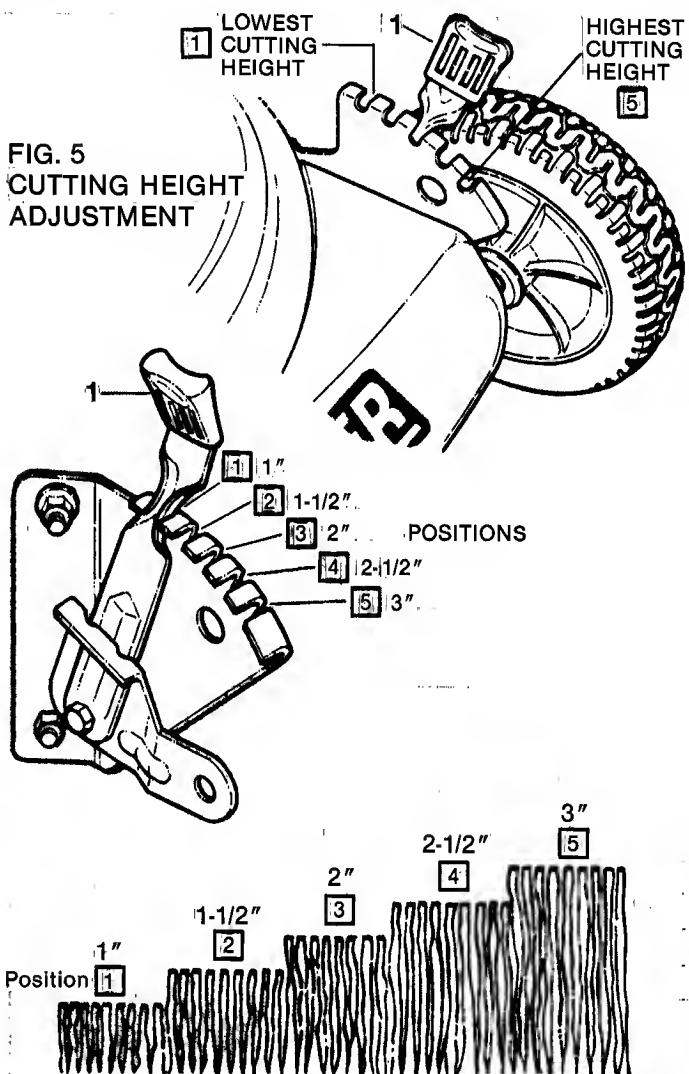

FIG. 5-A CUTTING HEIGHT SETTINGS
•CHECK cutting height and adjust as needed, to suit the prevailing grass conditions. Refer to FIG. 5.
NOTE: The highest cutting position is attained with the four latches set in notch 5. The lowest cutting position is with latches set in notch 1. Refer to FIG. 5.
During dry seasons, allow the grass to grow taller than normal. Refer to FIG. 5-A.